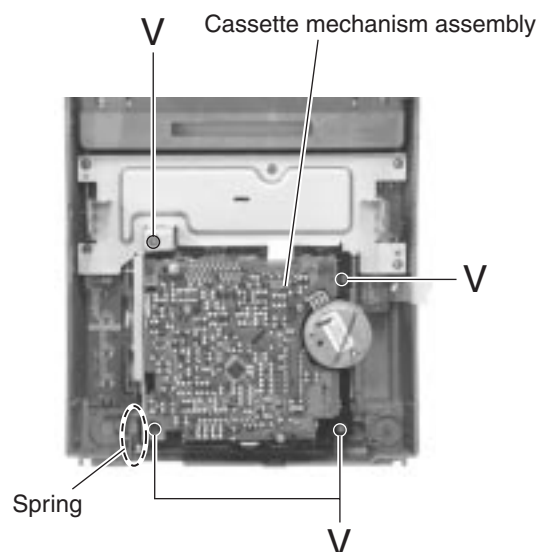

Fig.34
■ Removing the cassette mechanism assembly (See Fig.34,35)